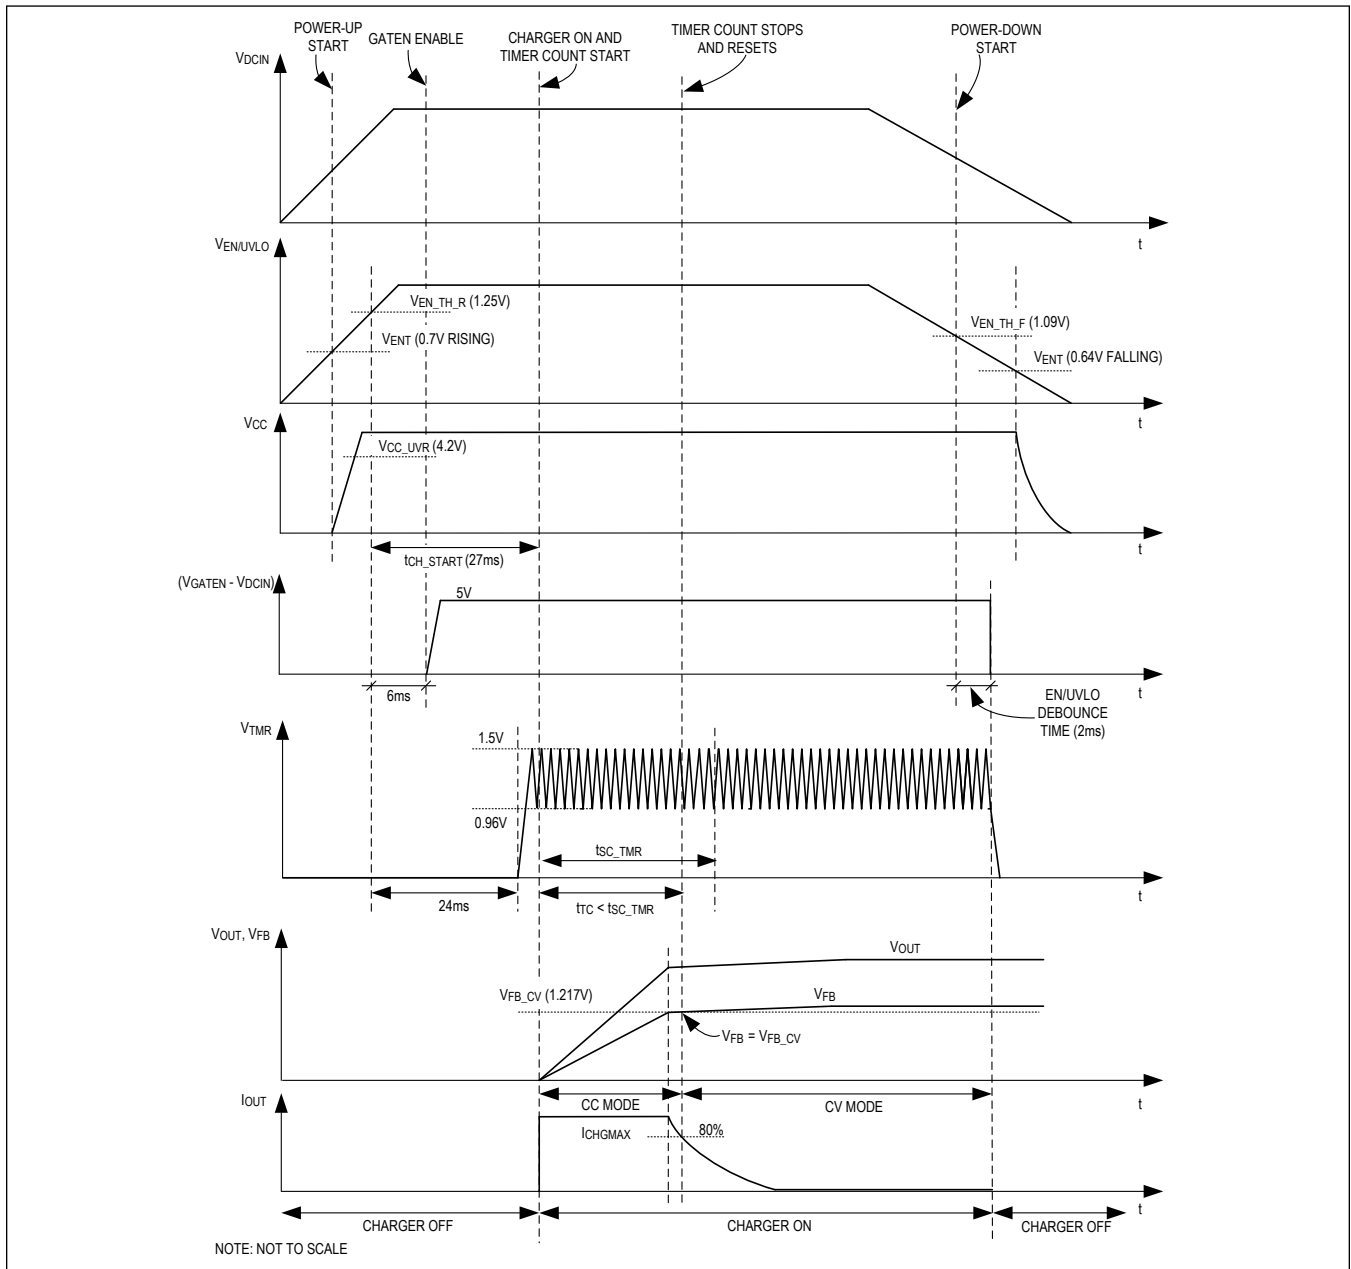

Figure 2. Charger Power-Up/Down Sequence
Figure 2 shows the MAX17701 power-up/-down sequence when DCIN voltage is applied/removed. When DCIN voltage reaches a level such that $V_{EN}/UVLO$ is around 0.7V (V_{ENT}) the INT-LDO regulator is enabled and V_{CC} rises. When V_{CC} rises above 4.2V (V_{CC-UVR}) and $V_{EN}/UVLO$ rises above 1.25V ($V_{EN_TH_R}$), the MAX17701 initiates EN/UVLO debounce and checks for hardware faults. If there are no hardware faults (see the Hardware Faults section) detected at power-up, the MAX17701 enables internal blocks during charger startup delay time t_{CH_START} . After this delay, the charger initiates LX switching and enters CC mode. In CC mode, the current is regulated at the CC mode charging current setting (I_{CHGMAX}). The safety timer counts the charging time in CC mode and if the output voltage reaches constant voltage mode ($V_{FB} > V_{FB_CV}$) within the safety timer setting (t_{SC_TMR}), the charger enters constant voltage (CV) mode and continues to operate.